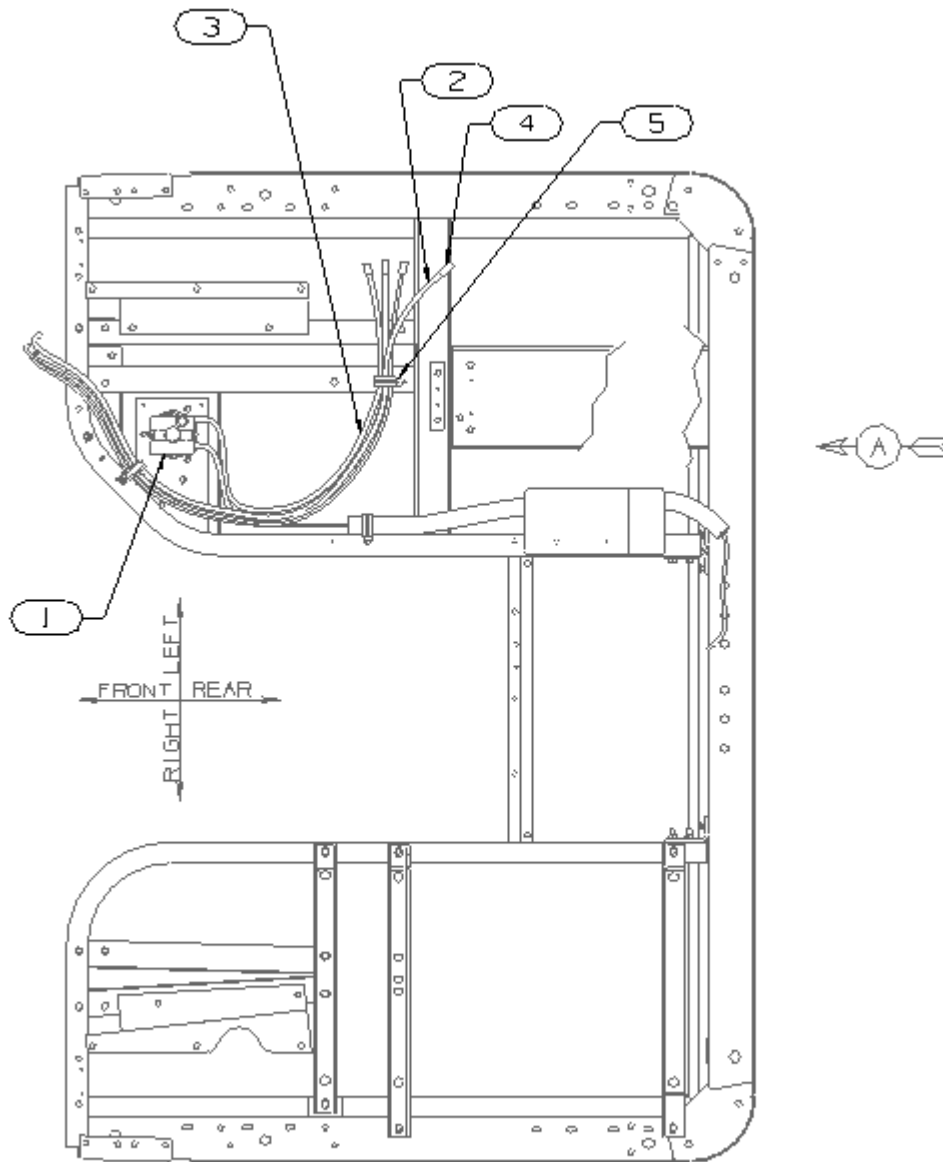
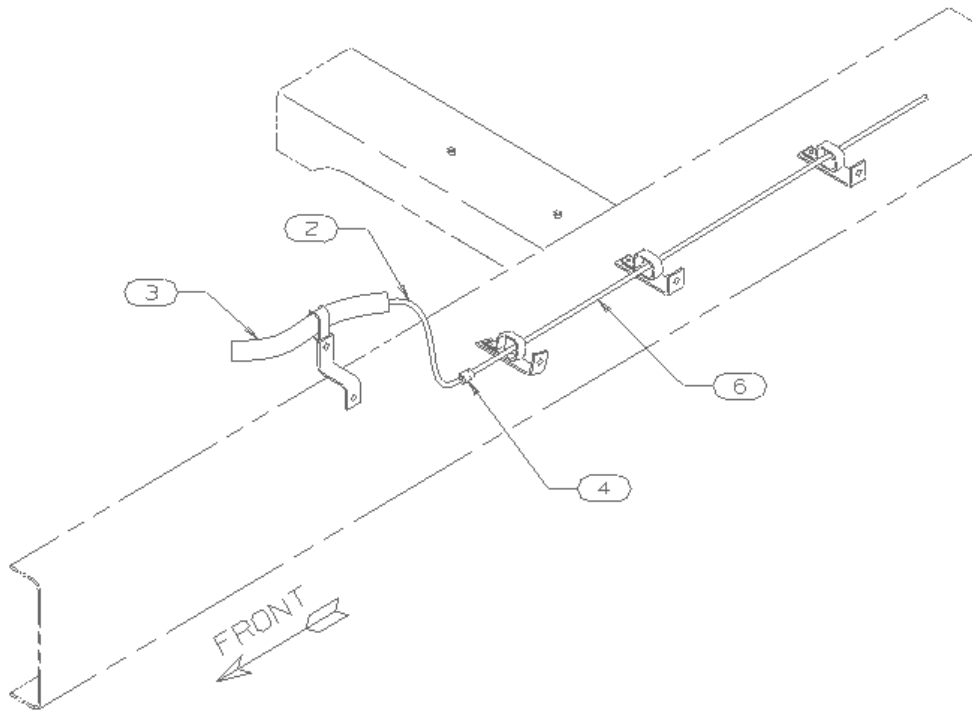
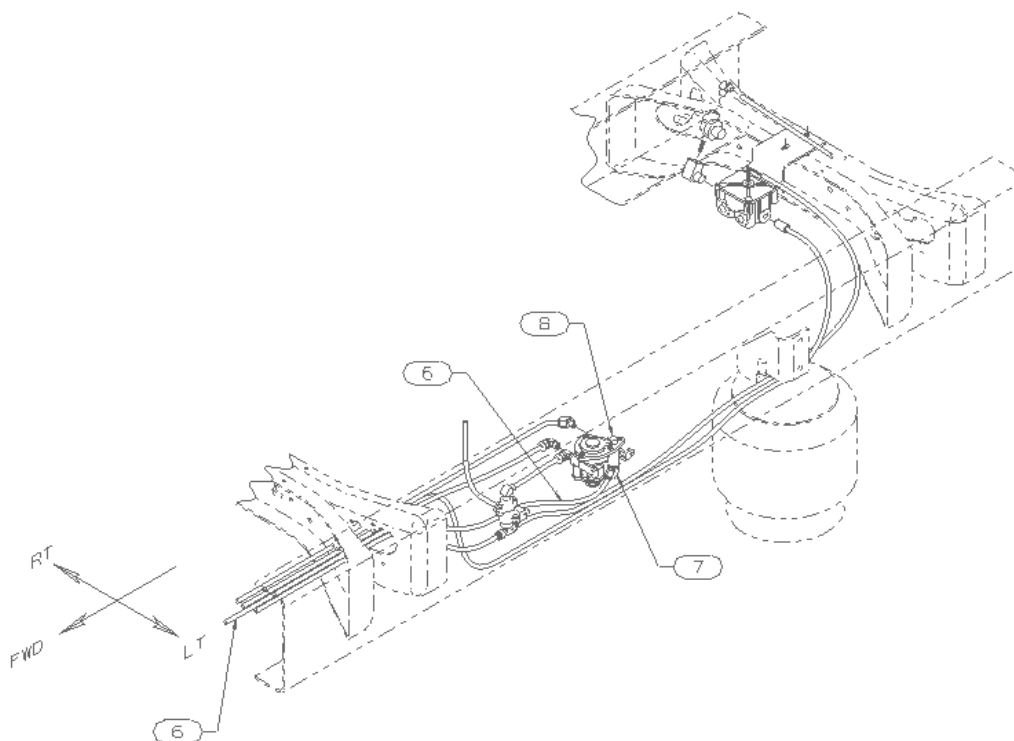

Figure 1: Bottom View of Cab Showing Foot Valve Location
Figure 3: 3/8-inch Orange air line routing
Figure 4: 3/8-inch Orange air line routing to the inversion valve
3. Locate the foot valve (see Figure 1).
5. Inspect the 3/8-inch orange air line: The air line should be connected at the coupling (item 4) shown in Figure 1 and Figure 3 and it should also be connected to the inversion valve (item 7) as shown in Figure 4. If the air line is properly connected as inspected in step 4 and 5, then, stop and submit a claim for inspection only. If the air line is not installed properly, continue to step 6.
6. If the air line is present, make sure it is disconnected at the foot valve and at the inversion valve and blow the dirt out of the line with pressurized air. If the air line has been cut or is not present, install a new air line and follow the routing shown in Figures 1, 3 and 4. The air line is part of the harness for trucks, but is separate from the harness for tractors. The inversion valve is standard with air brakes on straight trucks but is optional on tractors. For tractors use a 63-inch piece of air line.
8. Connect the air line at the inversion valve (see Figure 4).
9. Connect the air line at the coupling (see item 4 in Figure 1 and Figure 3) if it was not connected at the assembly plant. The air line should now be properly installed.